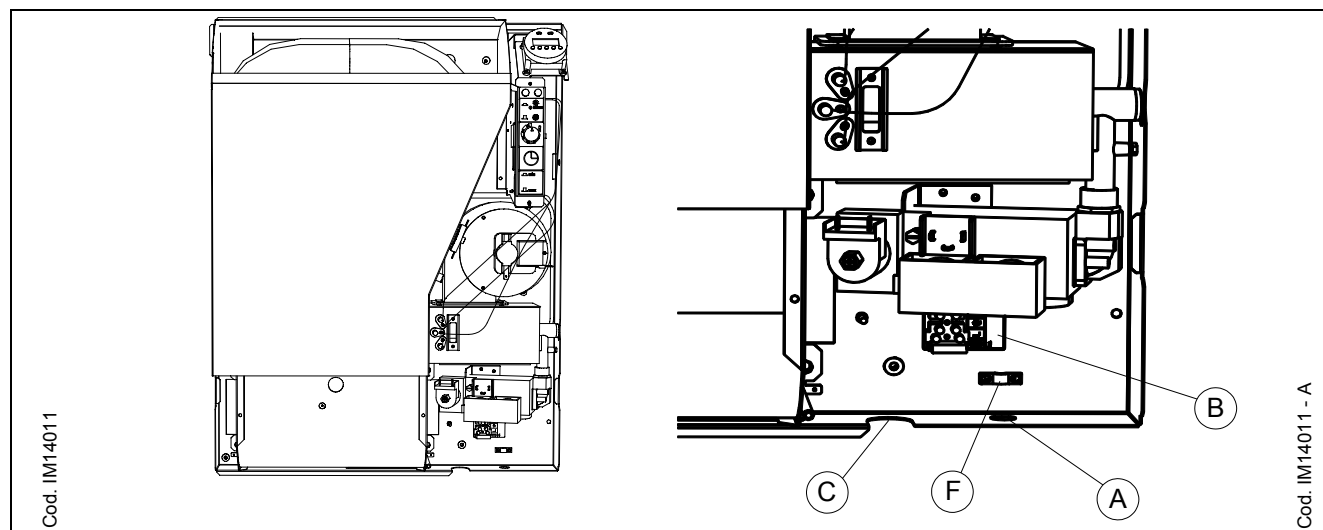
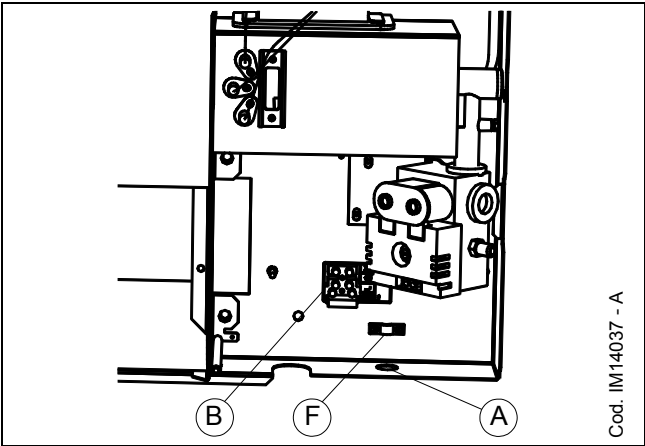
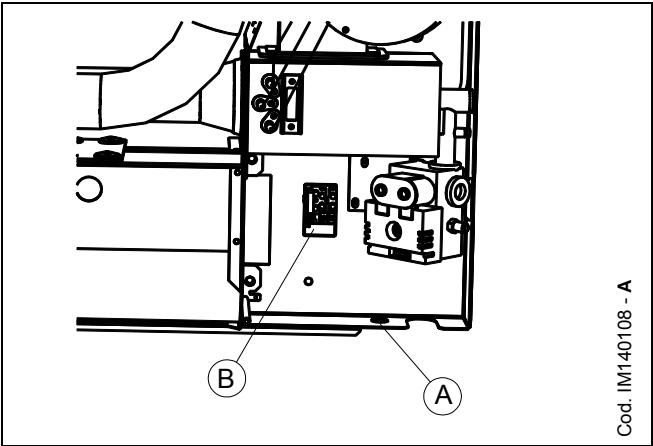
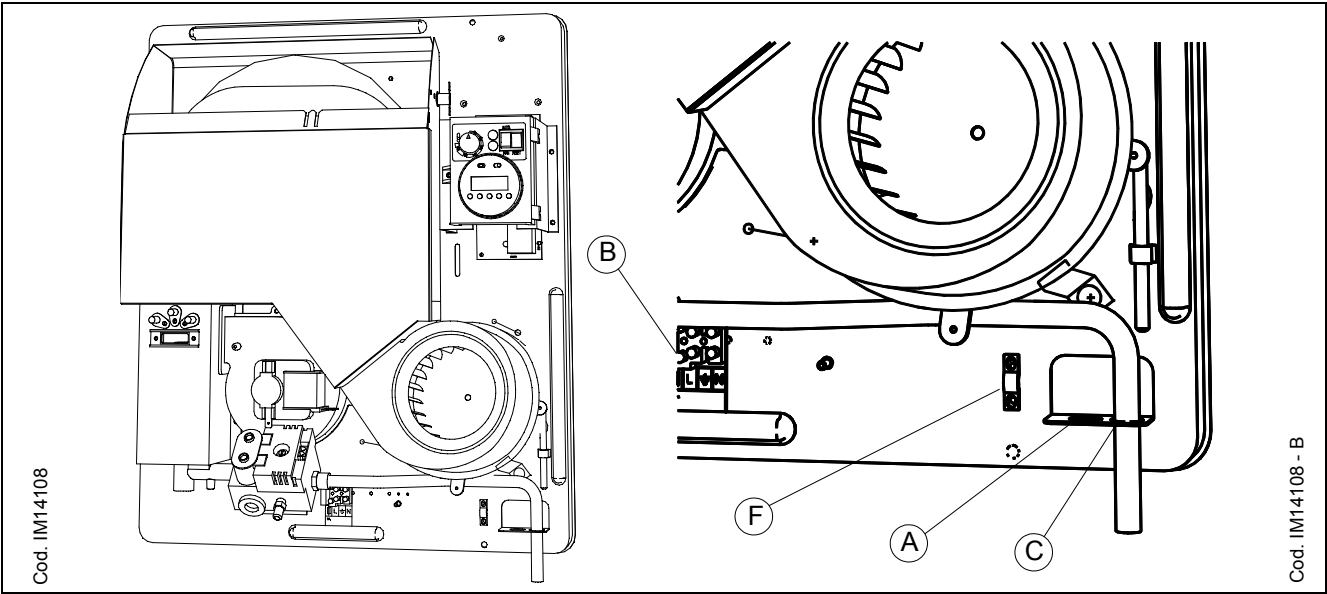

Figure 18 - SUPPLY LOCATIONS 5002 AND 8002 MODELS
Figure 20– SUPPLY LOCATIONS 4001, 4002 AND 5001 MODELS
Figure 21 – SUPPLY LOCATIONS 8001 MODEL
Figure 22 - SUPPLY LOCATIONS FOR 3001 AND 3002 MODELS
14. Arrange for unit connection to the electric supply system. Use a three-pole cable with fused 3 amp plug and make it go through the cable seat located in hole A and, for 3001, 3002, 4001, 4002, 5001 and 5002 models, also through the existing jumper F (see Figure 18, Figure 20 or Figure 22). Alternatively, an omnipolar switch with a minimum opening of contacts of 3 mm to be placed between the unit and the gas supply network can be used. An omnipolar isolating switch is a switch allowing both phase and neutral opening. This means that when it opens both contacts are opened.
The cable must be HO5 VVF 3x1 mm² type, with a maximum external diameter of 8,4 mm and it must be connected to the terminal board B (see Figure 18, Figure 20, Figure 21 or Figure 22). Mind the polarity on the terminal board (L=phase, N=neutral, \perp =earth).
16. For Models 5002 and 8002 connection to the gas valve the pipe has to go through hole (C) see Figure 18.
17. Model 3001 and 3002 are already equipped with a suitable pipe connection. For connection to the gas valve the pipe has to go through hole (C). See Figure 22.